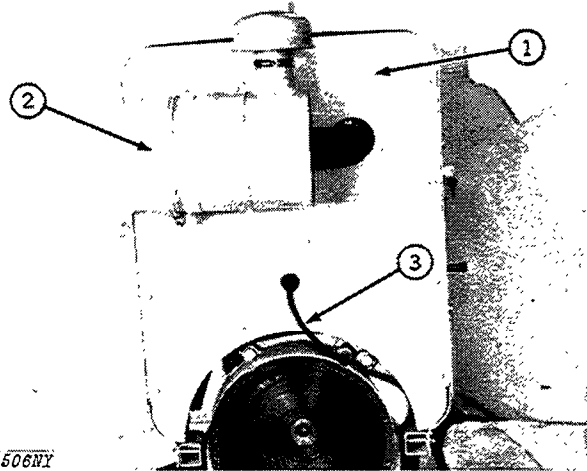

Fig. 7-Engine Enclosure Rear Panel
Disconnect tachometer drive cable (3, Fig. 7) from flywheel housing.
Remove rear panel (1, Fig. 7) with air cleaner (2) attached.
Install rear panel (1, Fig. 7) with air cleaner (2) attached.
Connect tachometer drive cable (3, Fig. 7) to fly-wheel housing.